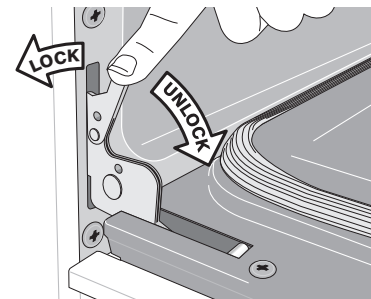

Figure 43: Door hinge locks
2. Pull the door hinge locks on both left and right door hinges down from the oven frame completely towards the oven door (See Figure 43). A tool such as a small flat-blade screwdriver may be required.
4. Push the door hinge locks up towards and into the oven frame on both left and right oven door hinges to the locked position (See Figure 43).